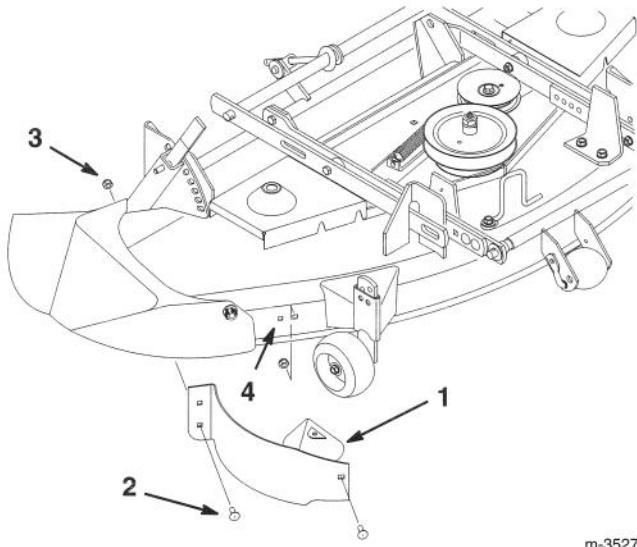

Figure 4
1. Remove the lock nuts from the right side baffle (Fig. 4). Slide the baffle out the discharge opening to remove.
2. Install the previously removed $5/16 \times 5/8"$ (16 mm) bolt and $5/16"$ locknut in the open hole on the right front of the mower for safety (Fig. 4).